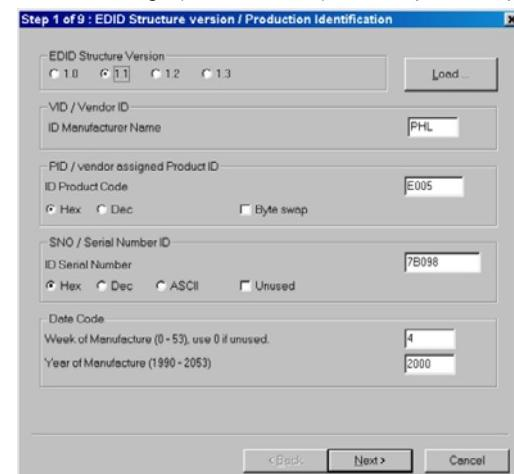

Fig. 14
1. Click  (new function) icon from the tool bar, bring up Step 1 of 9 as shown in Fig. 14 .